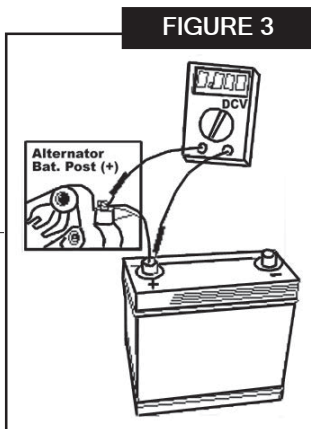

FIGURE 3
- ◆ Using the voltmeter, measure the voltage drop between the battery positive post (+) and the alternator output post (See figure 3). Voltage should be less than 0.40VDC. If voltage is higher than 0.40VDC, check for poor connections between the alternator and the battery. Possible causes are under sized battery cables, loose or improperly crimped terminals, and corroded connections.